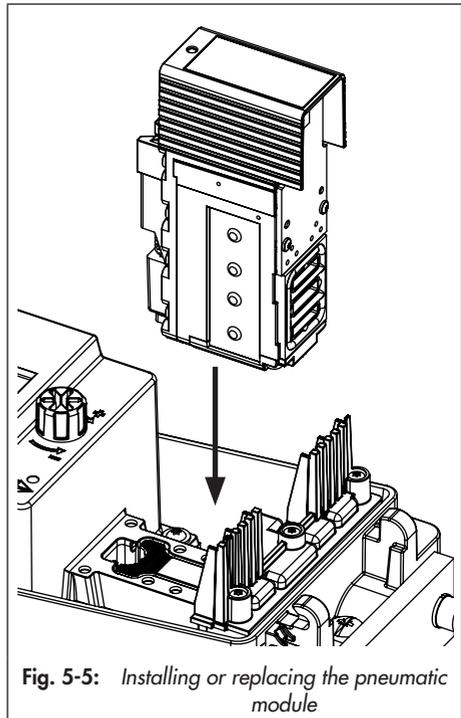

Fig. 5-5: Installing or replacing the pneumatic module
4. Install the module as shown in Fig. 5-5. Press the module toward the display and insert it along the wedge.